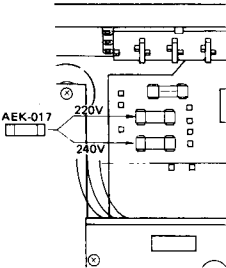

Fig. 1
- 4. Re-install the fuse in the correct voltage indication (see Fig. 1).